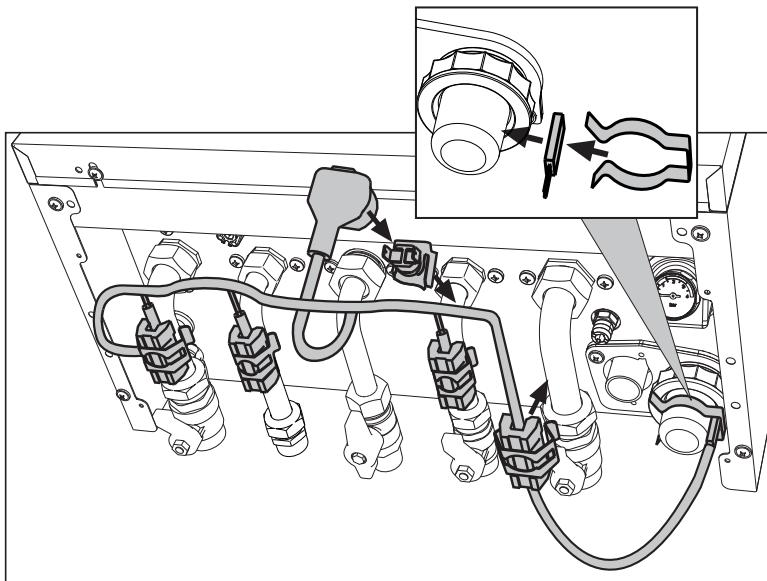

fig. 49- Frost protection kit
In case of installation outside in a place partially protected for temperatures below -5°C and to -15°C, the boiler must be fitted with the special frost protection kit for protecting the circuit. Connect the kit to the PCB as indicated in the wiring diagram in fig. 81 (ref. 288) and position the thermostat and heaters on the pipes as indicated in fig. 49 and in the instructions provided with the kit.